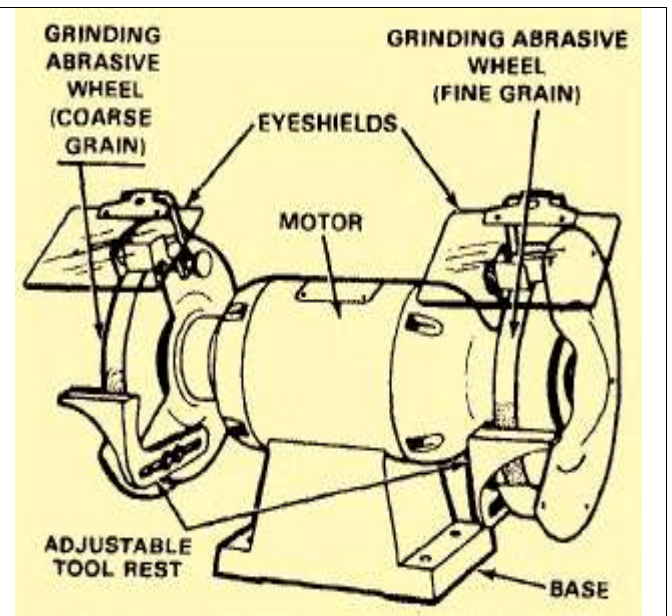

Figure 5-2. Bench-type utility grinding machine.
**Bench Type Utility Grinding Machine:** Like the floor mounted utility grinding machine, one coarse grinding wheel and one fine grinding wheel are usually mounted on the machine for convenience of operation (Figure 5-2). Each wheel is provided with an adjustable table tool rest and an eye shield for protection.